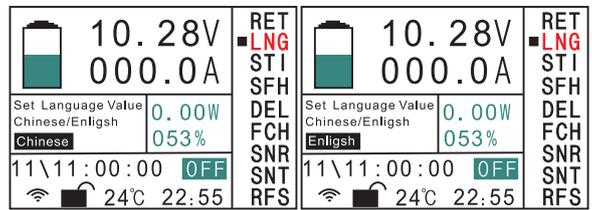

Figure 4-11
11). "**LNG**" Language switching function, the instrument parameters preset with Chinese and English two interfaces to choose from, enter the parameter settings page as shown in Figure 4-11, click the  $\uparrow\downarrow$  key to switch the language type.